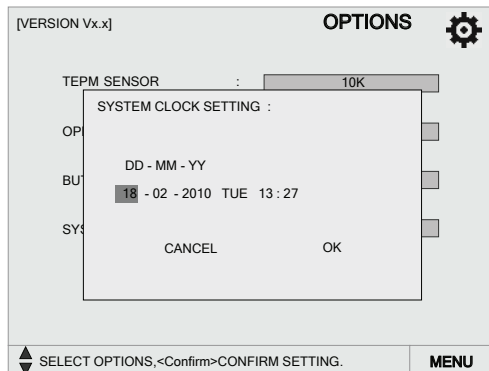

Fig.3-9 SYSTEM CLOCK SETTING Page
**SYSTEM CLOCK:** (Fig.3-9) Set the current time, including year, month, date, hour, minute and week.